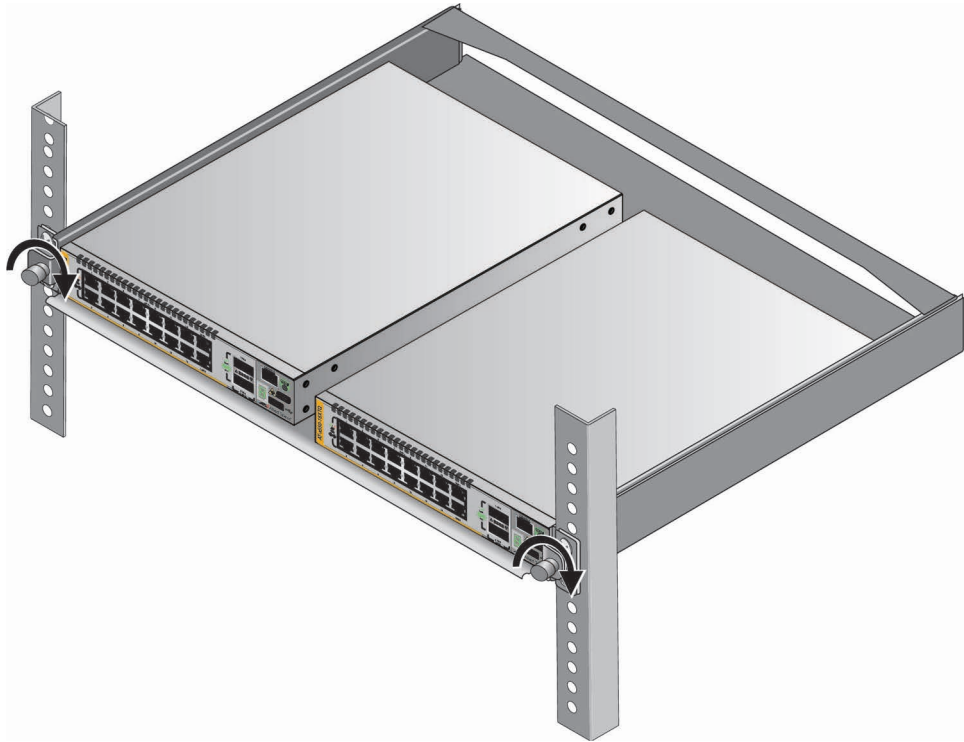

Figure 35. Tightening the Two Thumbscrews on the AT-RKMT-J15 Bracket
11. Tighten the two thumbscrews to secure the tray to the bracket. Refer to Figure 35 on page 71.